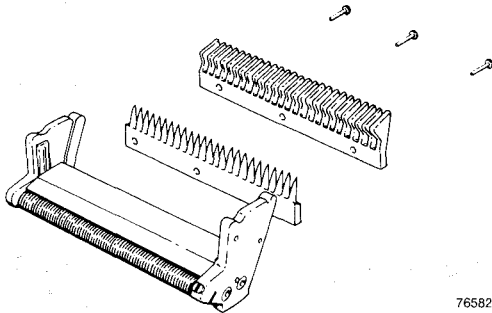

Fig. 53—Strip splice head.
- m. "Strip" a splicing head by removing pair separator and wire guide. See Figure 53.